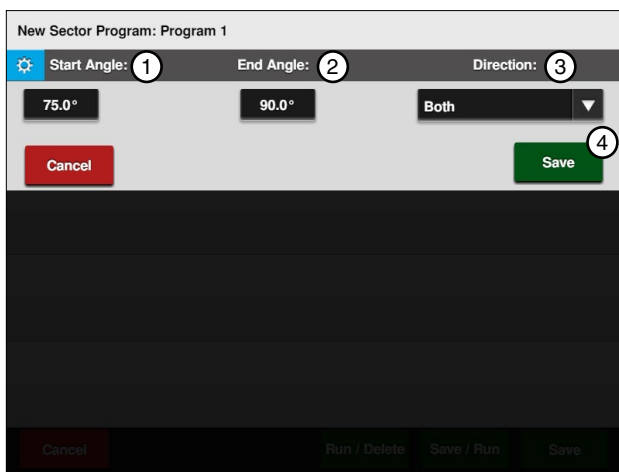

Figure 146-3 1. Start Angle 2. End Angle 3. Direction 4. Save
3. Select the **Start Angle** field. Refer to Figure 146-3.